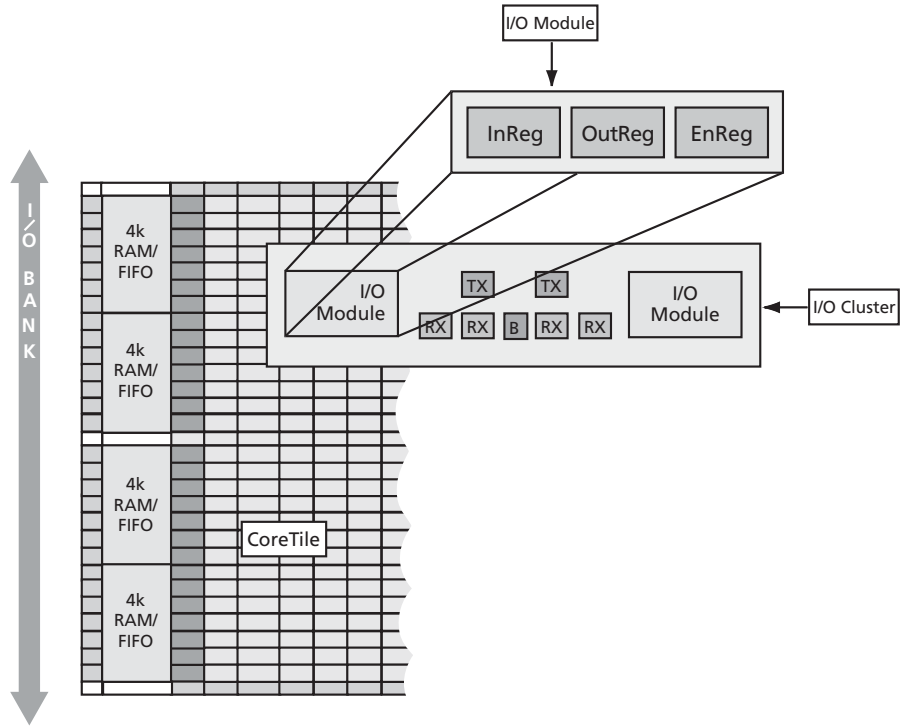

Figure 1-7 • I/O Cluster Arrangement
Each I/O module has an input register (InReg), an output register (OutReg), and an enable register (EnReg) (Figure 1-7 on page 1-6). An I/O Cluster includes two I/O modules, four RX modules, two TX modules, and a buffer (B) module.